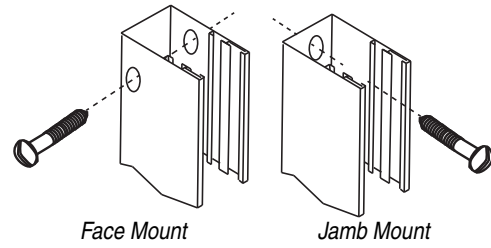

Figure 10
- ③ Attach using hardware appropriate to mounting surface and conditions (see Fig. 10).